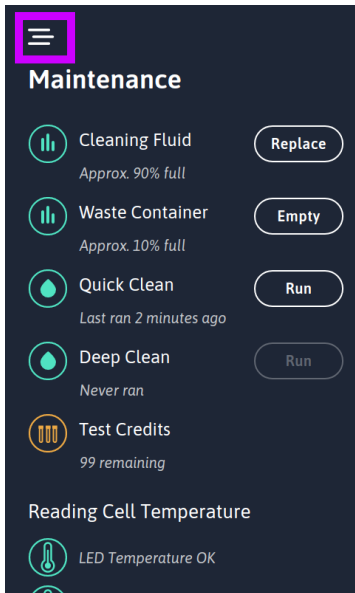

Figure 4
- Once the three wash cycles have completed, press the “Burger” icon as highlighted in pink in Figure 4.